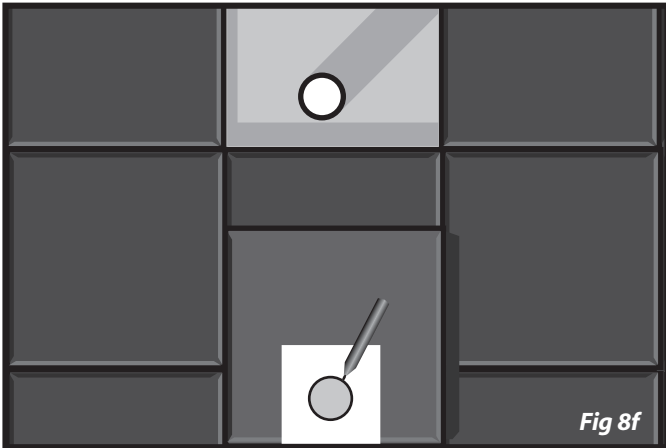

Fig 8f
10. Place your template into the center of the “square” and mark the perimeter of the template. You are now ready to make your cut (Fig 8f).